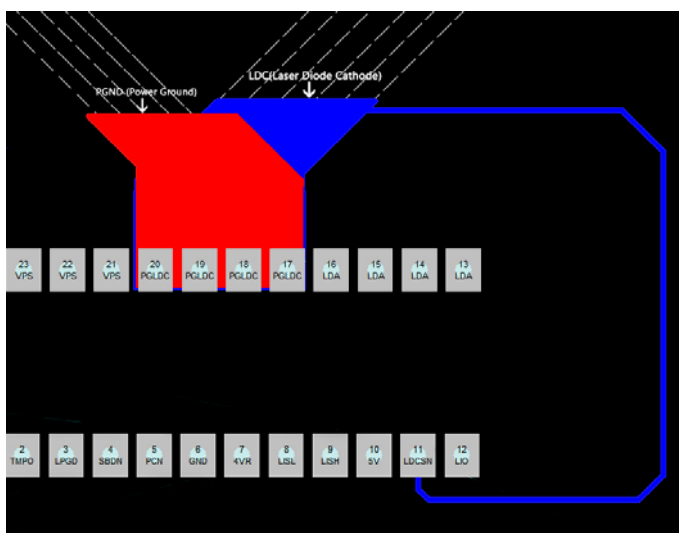
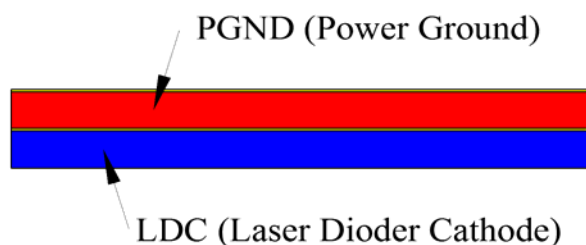
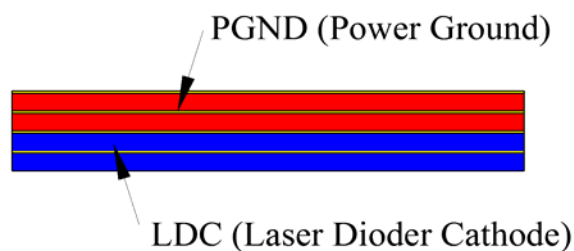

Figure 15. The Layout for the Two-Layer PCB
Figure 16. The Section View for the Two-Layer PCB
Figure 17. The Section View for the Four-Layer PCB
4. If the PCB is for mounting the laser driver. See the figures below for the layout of PGLDC pin. If the PCB has two layers, the top layer (red) is for routing PGND track, and the bottom one (blue) is for routing LDC track, see Figure 15. If the PCB has four layers, the top two layers are for routing PGND track, and the bottom two layers are for routing LDC track. The section views for two-layer and four-layer PCB's are shown in Figure16 and Figure 17 respectively.